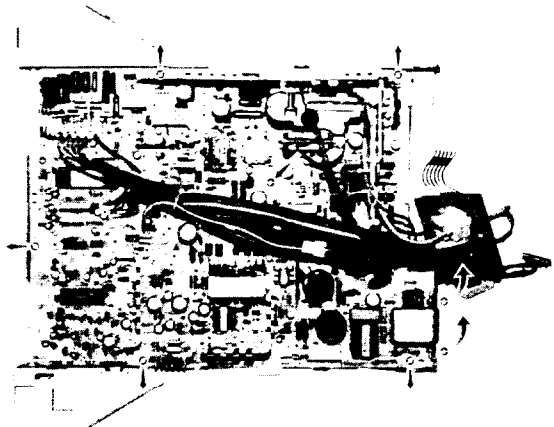

Figure 5-7
2. Hold the Main PCB Ass'y close to the CRT as shown in figure 5-7 and reconnect the following connectors: